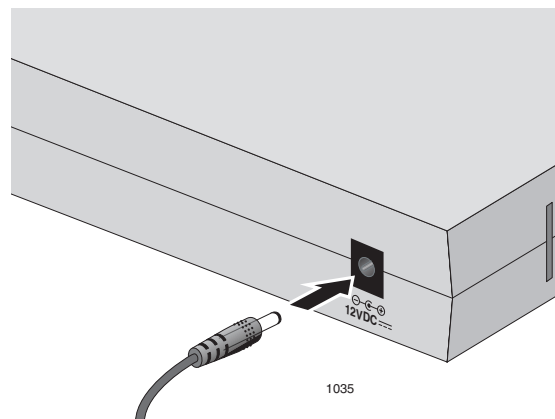

Figure 11. Connecting the DC Power Connector to Switch
1. Apply DC power to the switch by plugging the DC power connector from the external power adapter to the DC power jack on the back panel of the unit, as shown in Figure 11.